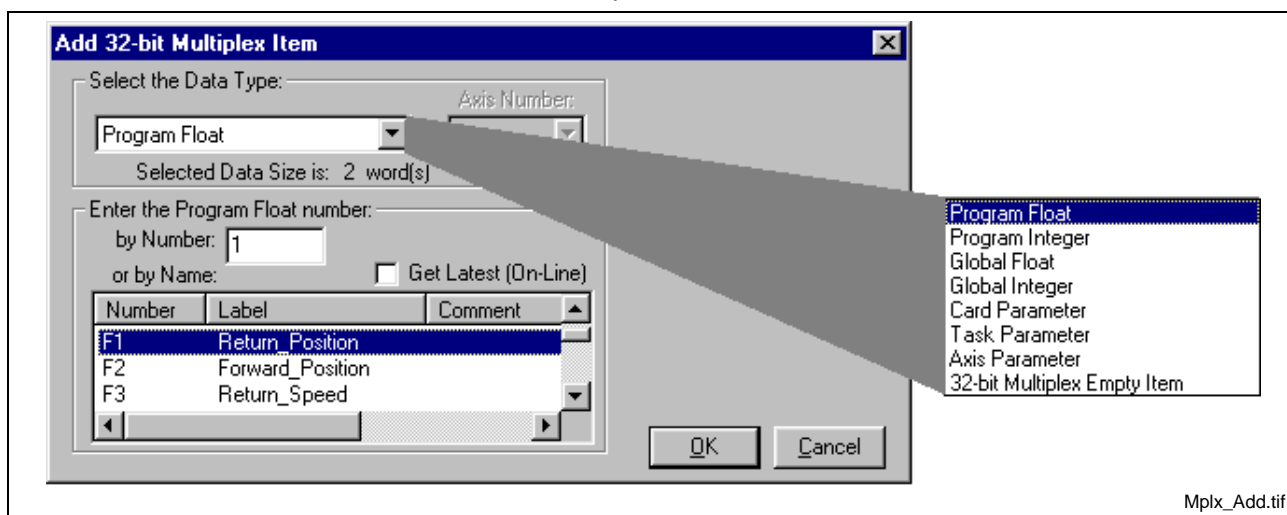

Fig. 6-15: Adding a Multiplex Item to the Container (32-bit example)
3. To add to the selected multiplex container, click No. The screen in Fig. 6-15 below is an example for adding a 32-bit multiplex item.